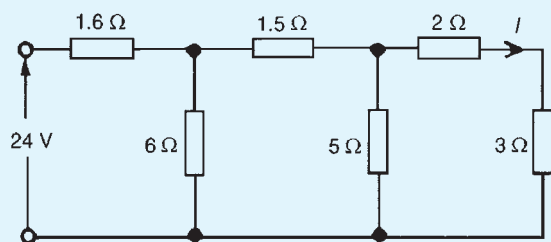

Figure 5.34
10. Find the current I in Fig. 5.34 [$1.8\ \text{A}$]